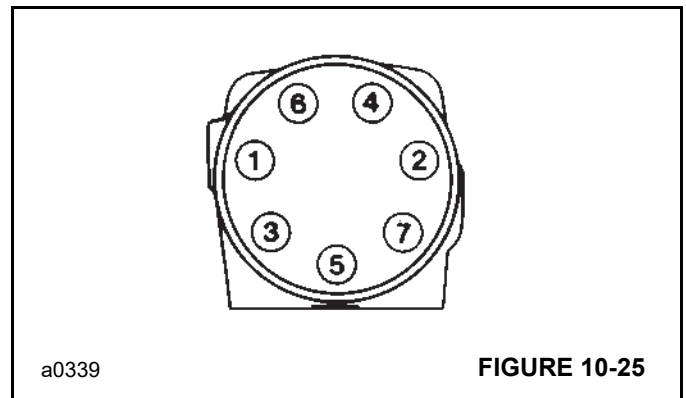

FIGURE 10-25
25. Install the seven 6 pt. Torx Drive screws with new seal washers in the end cap. Tighten each screw to 17 Nm (150 lb-in), then tighten each screw in sequence (Figure 10-25) to a torque of 31 Nm (275 lb-in).